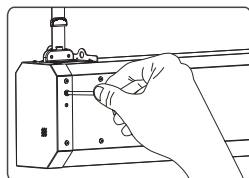

Figure 28
- a.Upper limitation adjusting. Take off the knob from the hole and use the provided allen key to adjust (figure 28). A clockwise adjustment will retract the screen (The distance between the screen and installation position will decrease) and a counter-clockwise adjustment will extend the screen (The distance between the screen and installation position will increase).